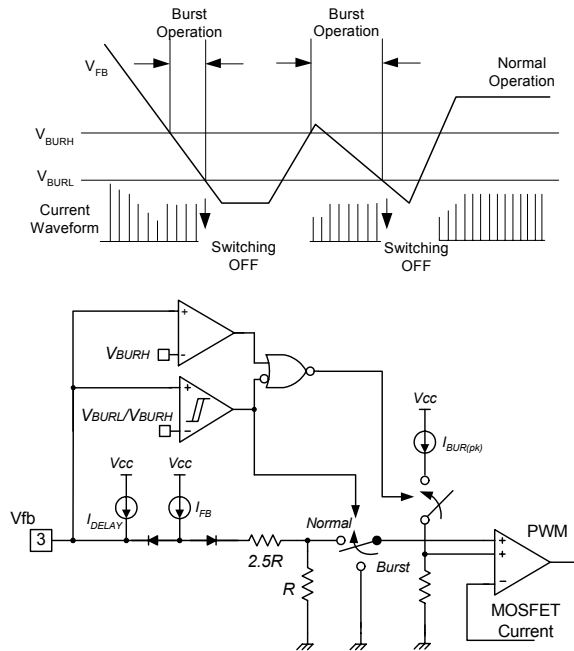

Figure 8. Burst Operation Function
**6. Burst Operation :** In order to minimize power dissipation in standby mode, the FPS enters burst mode operation. As the load decreases, the feedback voltage decreases. As shown in Figure 8, the device automatically enters burst mode when the feedback voltage drops below VBURH(500mV). Switching still continues but the current limit is set to a fixed limit internally to minimize flux density in the transformer. The fixed current limit is larger than that defined by VFB = VBURH and therefore, VFB is driven down further. Switching continues until the feedback voltage drops below VBURL(350mV). At this point switching stops and the output voltages start to drop at a rate dependent on the standby current load. This causes the feedback voltage to rise. Once it passes VBURH, switching resumes. The feedback voltage then falls and the process repeats. Burst mode operation alternately enables and disables switching of the Sense FET and reduces switching loss in Standby mode.